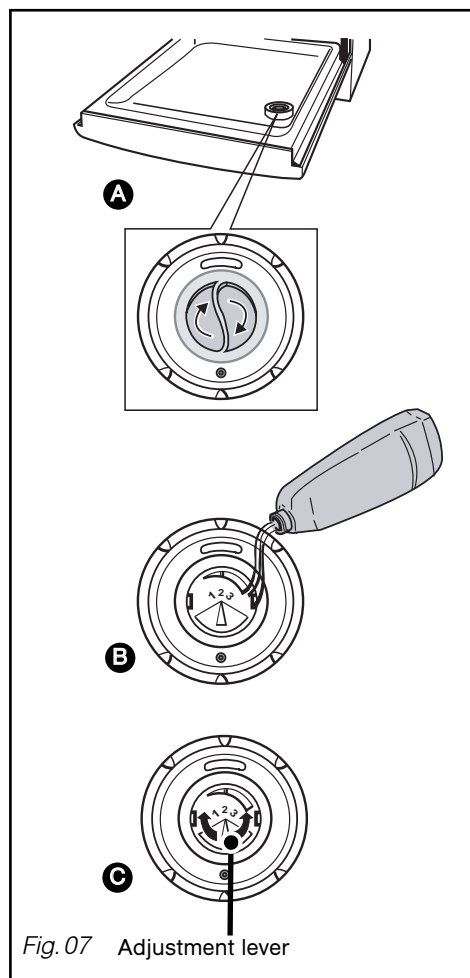

Fig. 07 Adjustment lever
• **Loading of rinsing product (Fig. 07)**
The original setting is in the centre (middle position: reference mark 2). If you encounter marks or poor drying after a few cycles, you can adjust the setting using the adjustment lever (fig 07 **C**; Reference mark 3 will increase the setting).